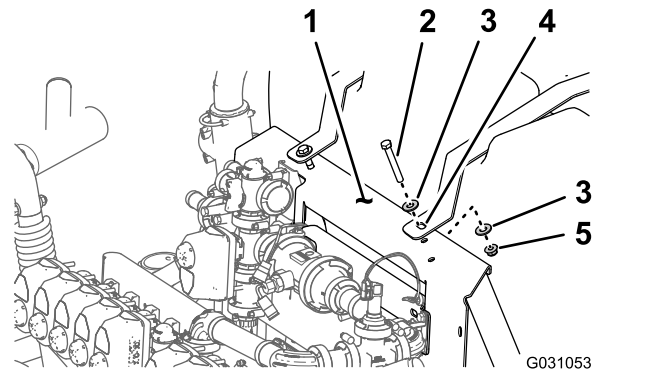

Figure 102
- A. Align the hole in the rinse-tank strap with the hole in the manifold mount (Figure 102).
- B. Assemble the strap to the mount (Figure 102) with the 2 bolts (3/8 x 2-3/4 inches), 4 washers (3/8 inch), and 2 flange locknuts (3/8 inch) that you removed in step 5C of Preparing the Sprayer Tank and Optional Rinse Tank (page 6).
- C. Tighten the bolt and locknut by hand (Figure 102).